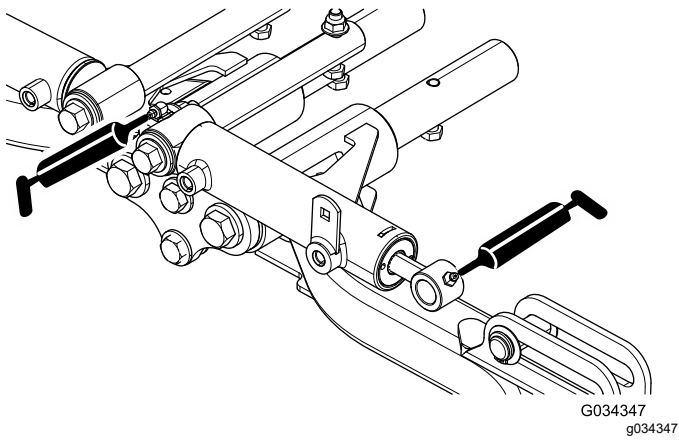

Figure 49
- Front lift-arm pivots and lift cylinders (3 each); refer to Figure 49.